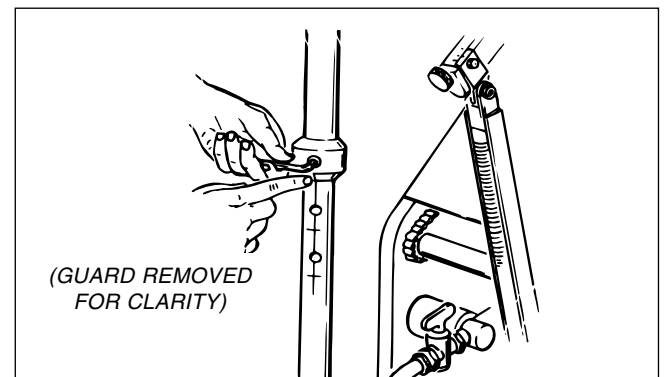

FIGURE 3-6, Install Mandrel Adapter
2. Slide drive tube end of Mandrel Adapter into drive tube of machine, and tighten set screw into one of holes (see Figure 3-6).